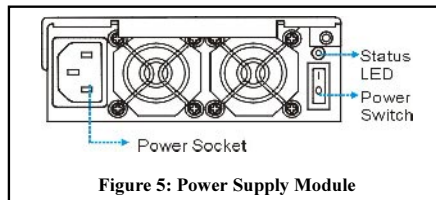

Figure 5: Power Supply Module
- Connect the two (2) provided power cables to the power sockets on the back of the system. (See *Figure 5*)
- Power on the subsystem by turning on both power switches on the rear panel of PSU modules. For the location of the power switches, please see *Figure 5*.